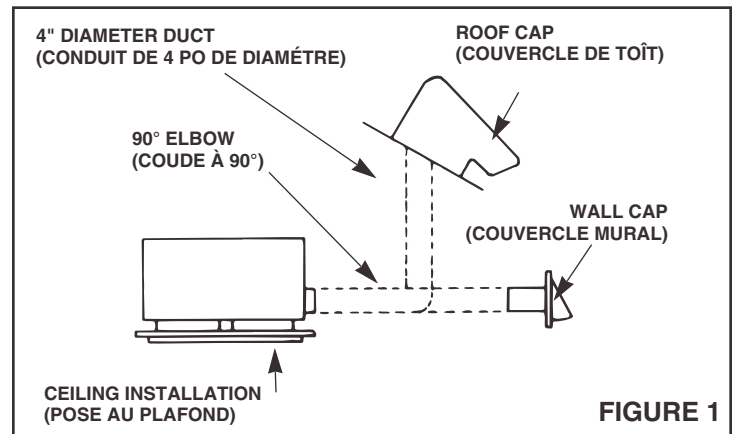

FIGURE 1
- Refer to Figure 1.** Use 4" round duct to discharge the ventilator to the outside.
Refer to Figure 2 for wiring and Figure 1 for ducting.